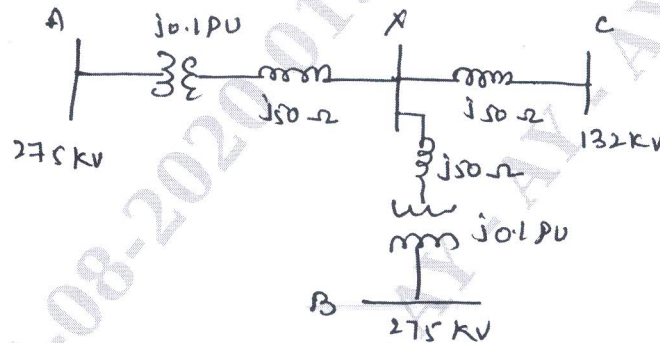

Fig.Q8(b)
b. 3 – generating stations are connected to a common bus-bar X, as shown on Fig.Q8(b) for a particular system load, the line voltage at the bus bar falls by 2 KV. Calculate the reactive power injection required to bring back the voltage to the original value. All PU values are on a 500 MVA base.